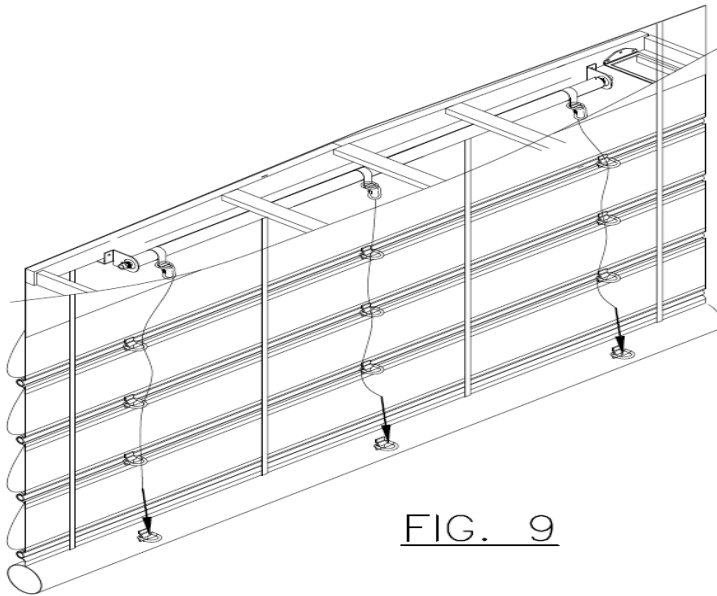

FIG. 9
- vii. Pass the 1" vinyl belt through each D ring to eventually lock it at the last D ring. (Fig 9)